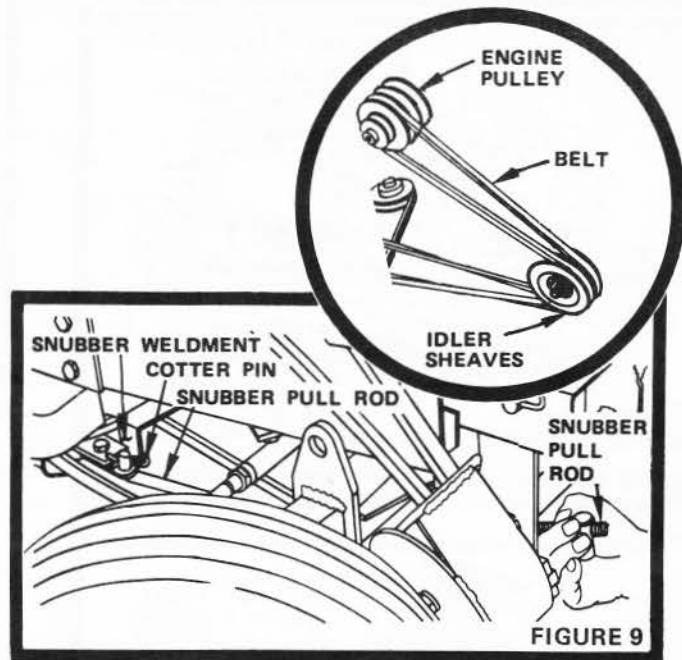

FIGURE 9
8. If Snubber Pull Rod is ever removed, be sure it is reassembled as shown in Fig. 9 to Snubber Weldment and secured with Cotter Pin. NOTE: SNUBBER PULL ROD MUST BE POSITIONED UNDER MOWER DRIVE BELT WITH SLIGHT BEND IN ROD DOWNWARD.
If Snubber Pull Rod is ever removed, be sure it is reassembled with slight bend in Rod downward and under the mower drive belt. Refer to Fig. 9, page 4.